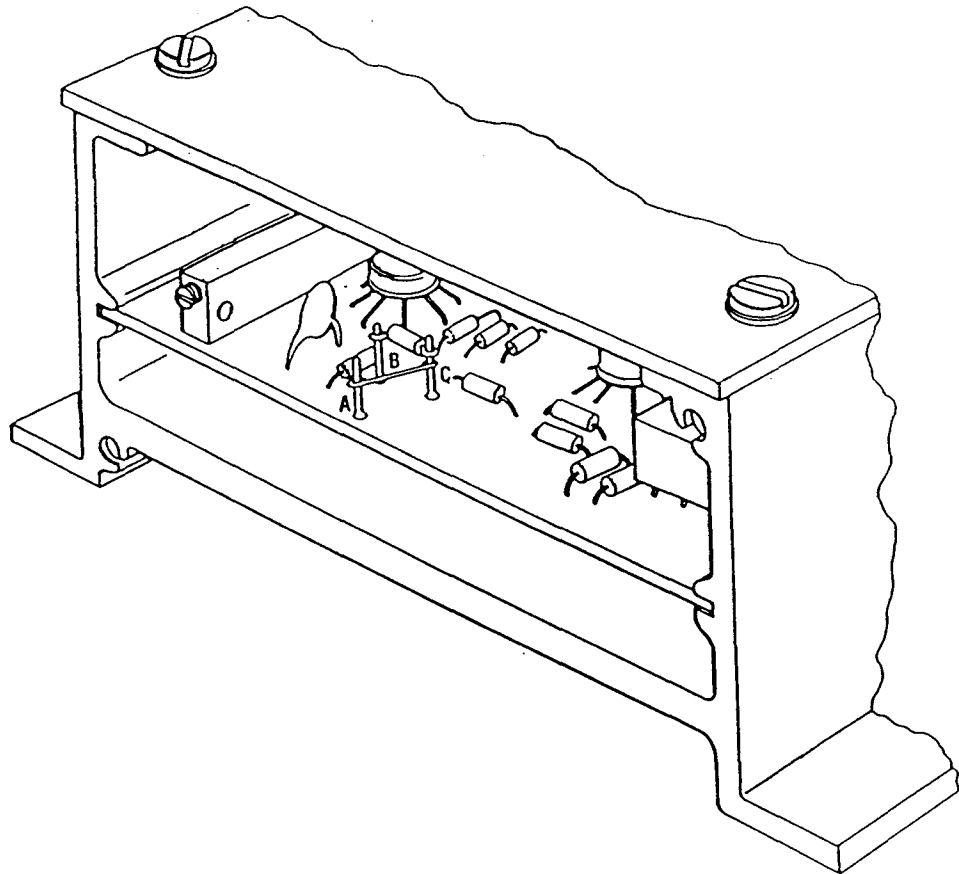

Figure 3. Location of post "A", "B", and "C"
2. Locate the three lugs identified in the illustration as lugs "A", "B" and "C" (see Figure 3).